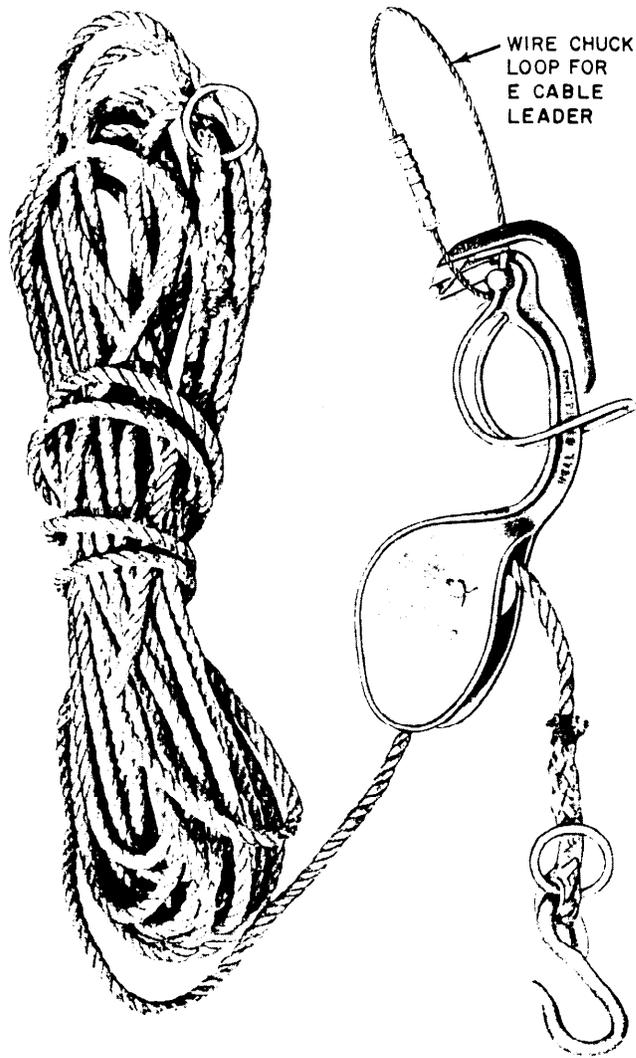

Fig. 30-B Aerial Handline
- (9) After completion of the mid-span clamp attachment, raise the drop wire to the building attachment by means of a B aerial handline equipped with a wire chuck loop (Fig. 30). Hang the B aerial handline on the previously placed building attachment by the wire chuck loop. Remove the drop wire slack between the building and span clamp, and add drag on the drop wire reel. Place a temporary drop wire clamp on the drop wire at an extended arms distance from the building as shown in Fig. 31. Pull the drop wire into position at the building attachment from the ground with the aerial handline as illustrated in Fig. 32. Proceed carefully to ensure that the drop wire is clear of all objects or pedestrians when raising the wire to the building attachment.